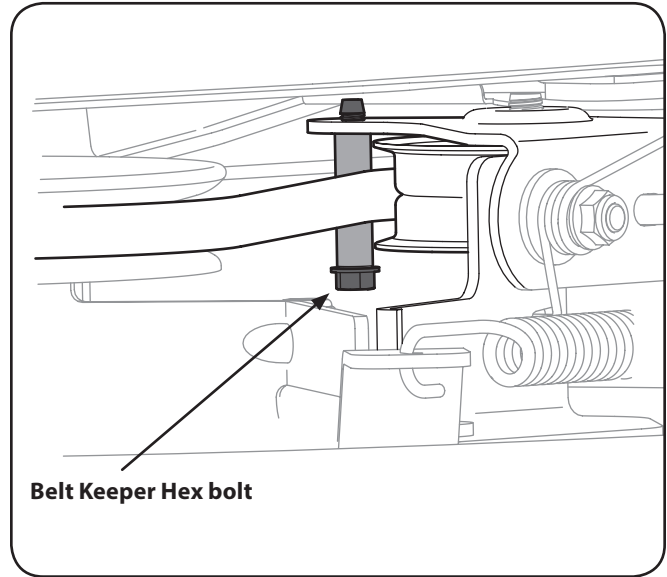

Figure 7-6
6. Remove the belt keeper by removing the hex bolt that secures it. See Figure 7-6.